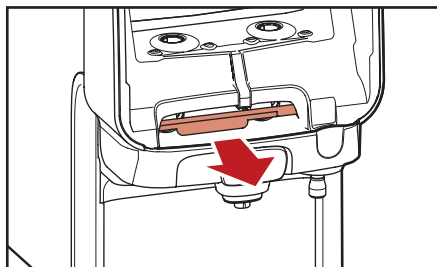

Fig. 5.3 - Pull red release bar
3. Pull the red release bar to open the outlet compartment (fig. 5.3).
- a. Pull the red release bar to open the outlet compartment (fig. 5.3).